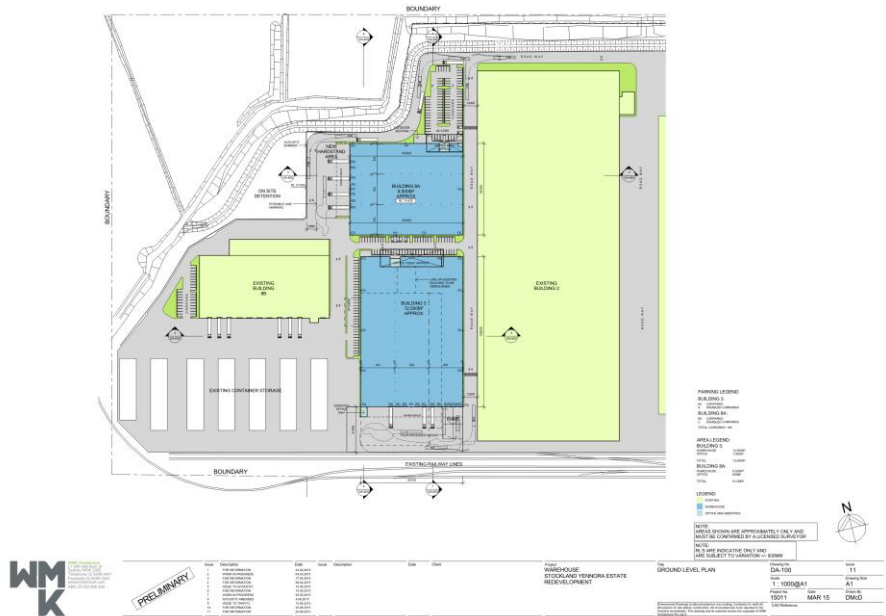

Figure 1 – Development Plan
The project involves the development of an industrial site to comprise two (2) industrial buildings, associated offices, heavy vehicle hardstand and carparking. A plan illustrating the development proposal is shown at Figure 1.